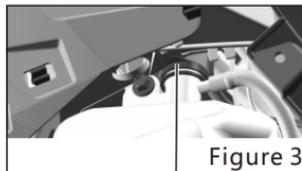

Figure 3
- Remove the white rubber cap (Figure 3) of expansion tank, then fill up with coolant through special rubber tube to the level between scale mark UPPER and LOWER.